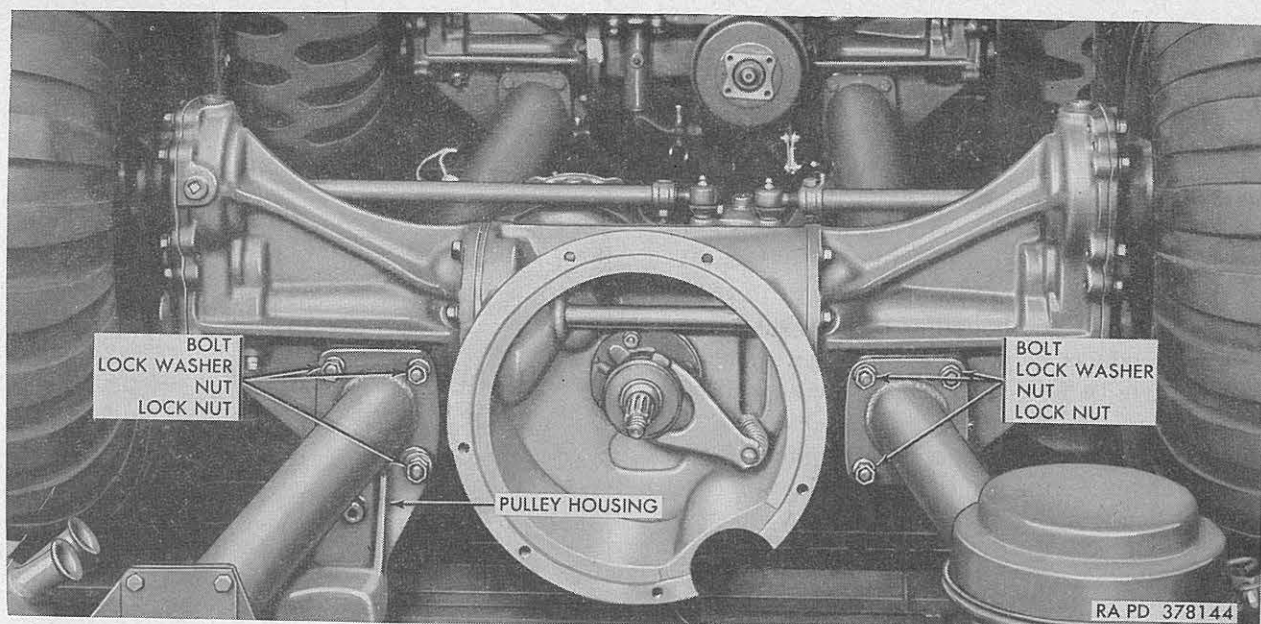

Figure 73. Disconnect points for rear axle.
- (7) Remove eight locknuts (fig. 73), seven hex nuts and seven lockwashers from bolts securing rear axle between flanges of frame tubes and rear support tubes. Remove right outside upper bolt which passes through axle and two flanges and is screwed into starter rope pulley housing. Support axle on hoist, remove remaining seven bolts, and lift axle away from vehicle frame. Remove gaskets installed between flanges of left tubes and axle.
- (1) With vehicle turned upside down, raise rear axle with hoist and lower to position between flanges of frame tubes and rear support tubes. Install gaskets between flanges of left frame tubes and axle. Push eight  $\frac{3}{8}$ -24NF x  $3\frac{1}{2}$  hex-head bolts (fig. 73) through flange of frame tube, rear axle and flange of rear support. Screw right outside upper bolt into starter rope pulley housing and install locknut. Install  $\frac{3}{8}$ -inch lockwashers, hex nuts and locknuts on remaining seven bolts.